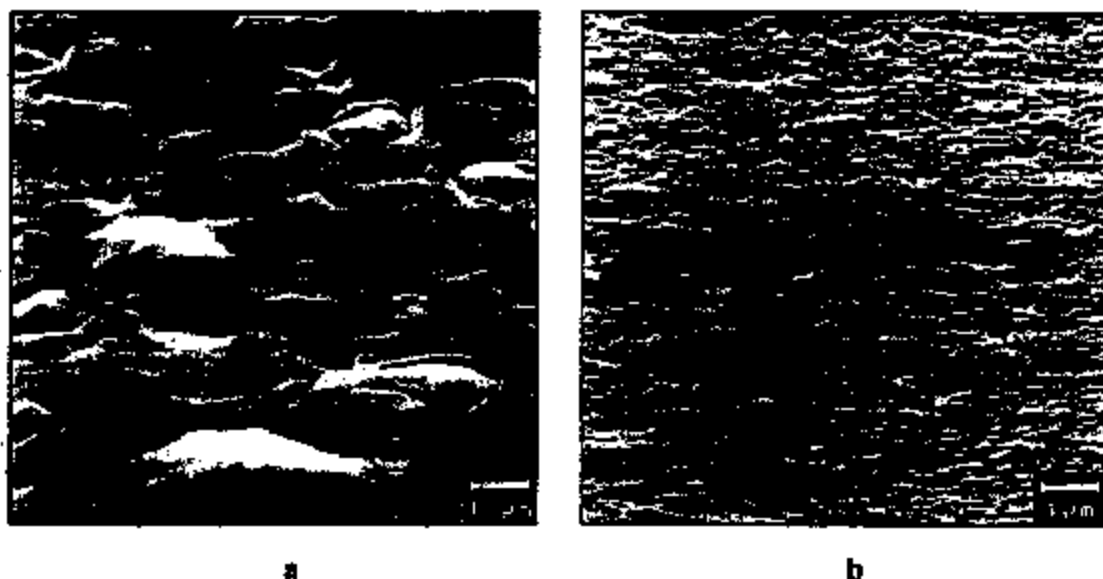

Fig. 1. Metallization surface examined by SEM after annealing (450°C, 30 min): (a) magnetron sputtered Al layer 1 μm thick; (b) similar layer of Al:Si:Cu alloy.
All manufactured metallization layers were polycrystalline, with grain dimensions dependent on the layer thickness and annealing conditions. A (111) preferred orientation was found from XRD measurements. SEM micrographs revealed numerous hillocks protruded into the metal layer surface (Fig. 1). Shapes and sizes of hillocks involved in Al:Si:Cu alloy by a 30 min annealing at a temperature of 450°C differ significantly from those in Al and Al:Si metallization. No influence of annealing atmosphere (nitrogen, hydrogen or argon) on the surface morphology was noted. The stylus